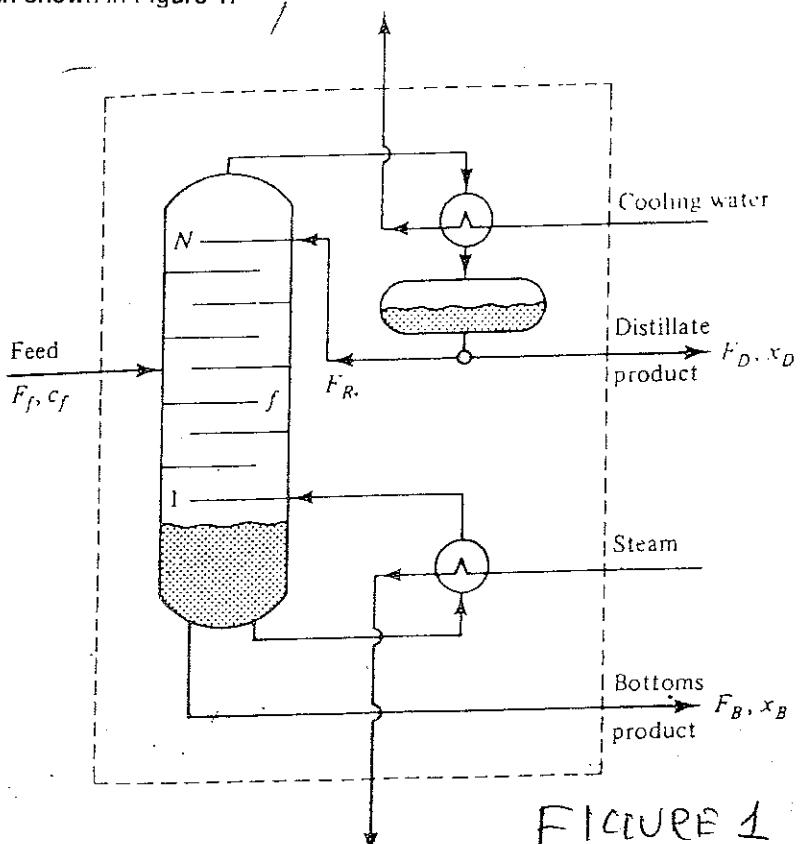

FIGURE 1
1. Find the total no of variables, total no of equations & the degrees of freedom for the binary distillation column shown in Figure 1. [12M]